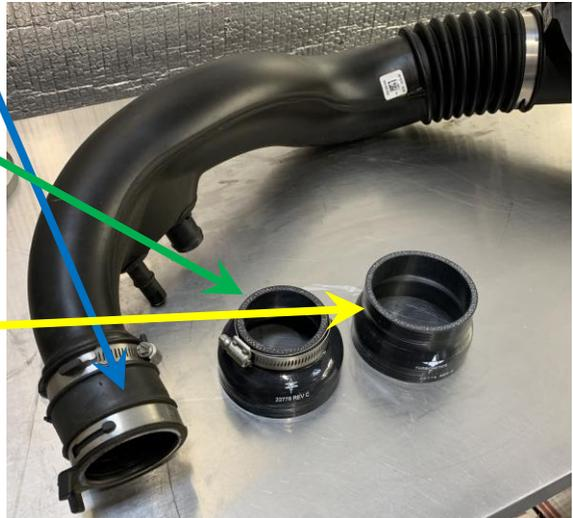

Fig. 29
1. While on the bench, remove factory coupler from intake tube. See Fig. 29 (use 7mm socket)